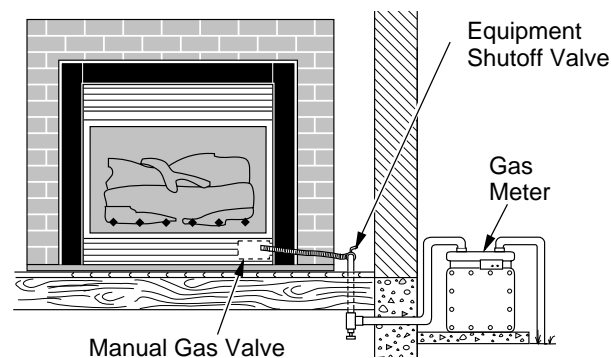
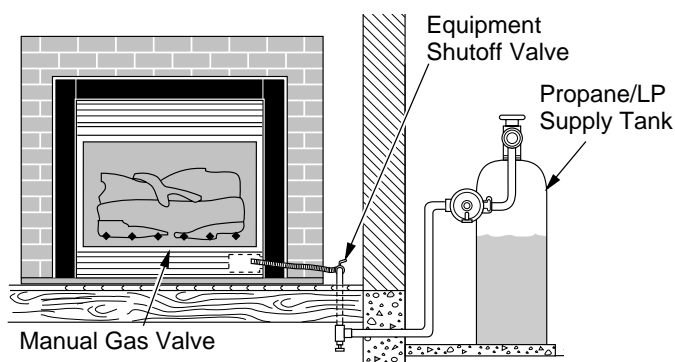

Figure 18 - Checking Gas Joints (Natural Gas)
Figure 19 - Checking Gas Joints (Propane/LP Gas)
3. Check all joints from gas meter to equipment shutoff valve for natural gas (see Figure 18), or propane/LP supply to equipment shutoff valve for propane/LP (see Figure 19). Apply a noncorrosive leak detection fluid to all joints. Bubbles forming show a leak.
4. Check all joints from gas meter to equipment shutoff valve for natural gas (see Figure 18, page 12), or propane/LP supply to equipment shutoff valve for propane/LP (see Figure 19, page 12). Apply a noncorrosive leak detection fluid to all joints. Bubbles forming show a leak.